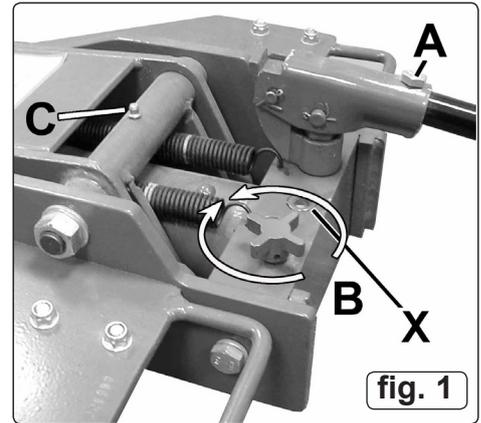

fig. 1
1. Open the release valve by turning knob anti-clockwise. See fig.1(B).
- 4.1. **ASSEMBLY.** Insert pumping handle into socket on top of hydraulic unit and tighten the fixing nut. See fig.1(A).
- 4.3.4. Close the jack release valve by turning knob clockwise. See fig.1(B).
- 5.2. Keep the jack clean and wipe off any oil or grease. Lubricate all moving parts and grease tilt mechanism regularly including the main pivot pin. See fig.1(C).
- 5.3. To check the oil level, fully lower the Jack. Remove filler plug (fig1-X). The correct oil level should be approximately 5mm below the filler opening. If oil level is low, fill as required. Pump unloaded jack 5 or 6 times to expel air and then refit plug.